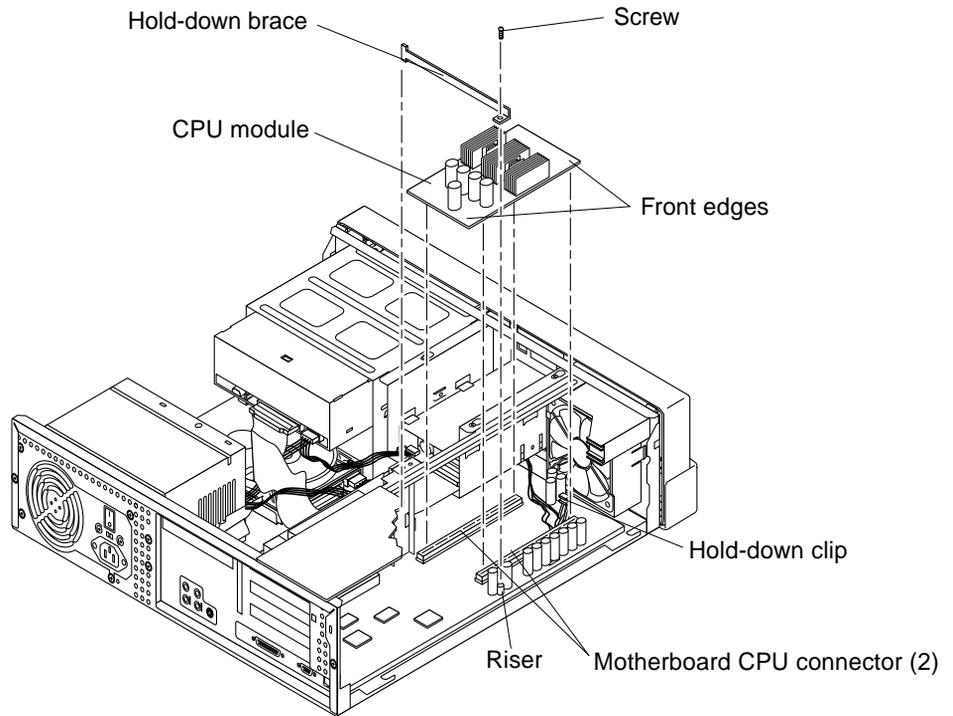
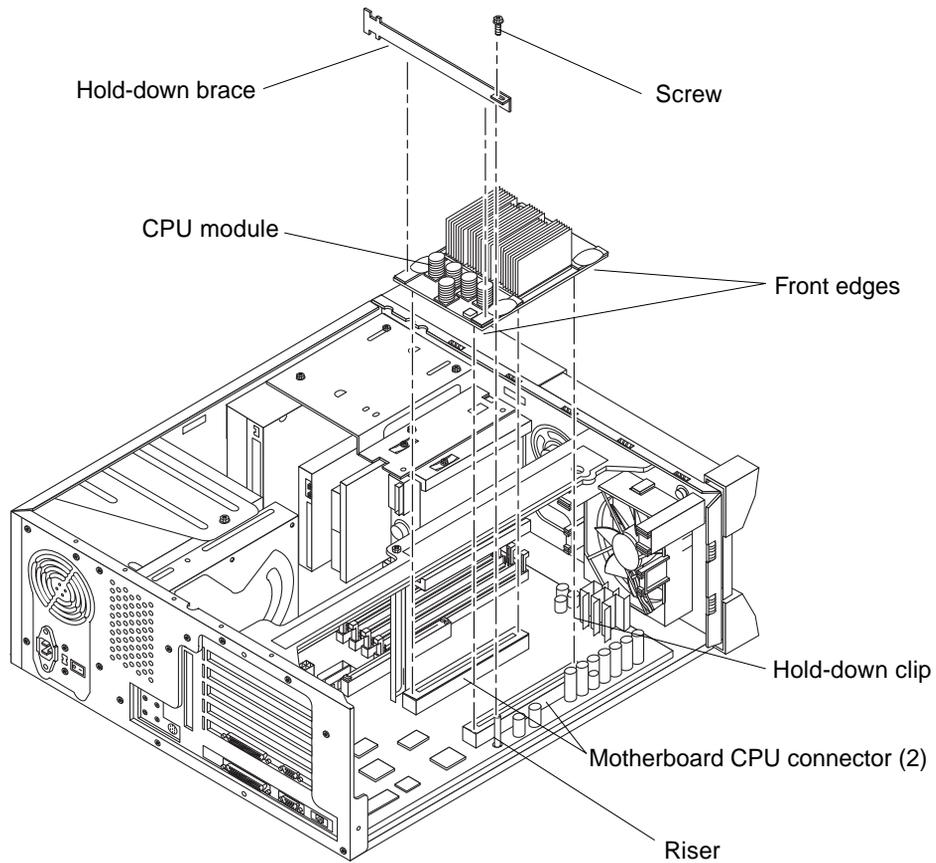

FIGURE 10-1 Removing and Replacing the CPU Module (Ultra 5)
FIGURE 10-2 Removing and Replacing the CPU Module (Ultra 10)
4. Remove the CPU module as follows (FIGURE 10-1 or FIGURE 10-2):
1. **Replace the CPU module as follows (FIGURE 10-1 or FIGURE 10-2):**